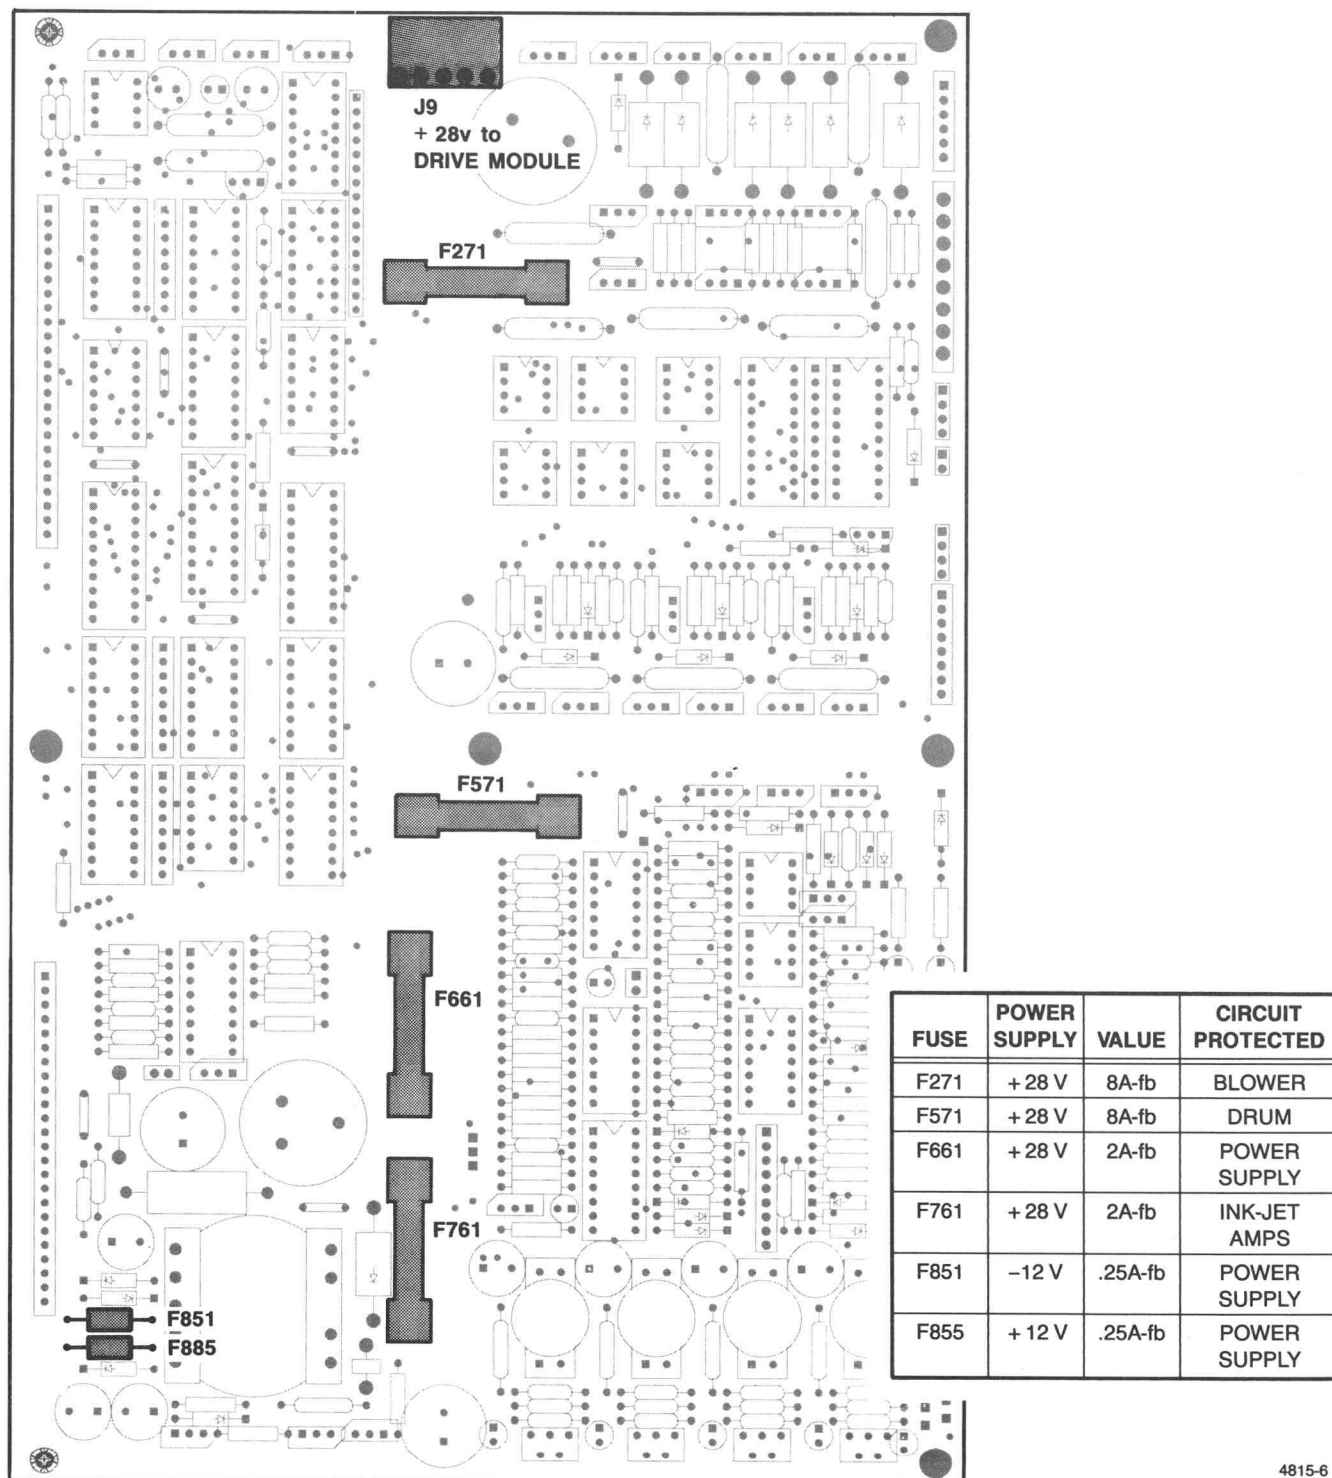

Figure 2-4. Power Supply Fuses on the Drive Module.
1. Disconnect J9 from the Drive Module. This connector is located on the lower right side of the Drive Module board. See Figure 2-4 if you can't locate the connector.
- c. Use the information in Figure 2-4 to check the fuses on the Drive Module.